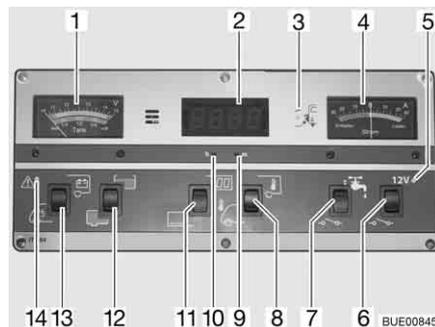

Fig. 107 Panel IT 994
With the V/tank gauge (Fig. 107,1), note the top scale. The gauge automatically lights up as soon as a switch is pressed.
- Press the lower part of the rocker switch (Fig. 107,13): The battery voltage of the starter battery is displayed.
- Press the upper part of the rocker switch (Fig. 107,13): The battery voltage of the living area battery is displayed.
The V/tank gauge is for the indication of the quantity of water or waste water. With the V/tank gauge (Fig. 107,1), use the bottom scale. The gauge automatically lights up as soon as a switch is pressed.
- Press the upper part of the rocker switch (Fig. 107,12): The volume of water is displayed.
- Press the lower part of the rocker switch (Fig. 107,12): The volume of waste water is displayed.
The red ALARM warning light (Fig. 107,14) flashes as soon as the voltage of the living area battery falls below 11 V (measured under operation) and there is a risk of a total discharge.
- Press the upper part of the rocker switch (Fig. 107,11): Digital clock display is switched on. Temperature display is ready to operate.
- Press the lower part of the rocker switch (Fig. 107,11): Digital clock display and temperature display are switched off.
- Press a thin device, such as a biro, into the opening for the hour display (Fig. 107,10) until the correct hours are displayed.
- Press a thin device, such as a biro, into the opening for the minute display (Fig. 107,9) until the correct minutes are displayed.
- Press the upper part of the rocker switch (Fig. 107,8): The internal temperature is displayed.
- Press the lower part of the rocker switch (Fig. 107,8): The external temperature is displayed.
The battery current actually flowing is permanently displayed on the current gauge (Fig. 107,4). The gauge automatically lights up as soon as a switch is pressed.
The 12 V main switch (Fig. 107,6) switches the panel and the 12 V power supply of the living area on and off.
*Switching on:* ■ Press the upper part of the rocker switch (Fig. 107,6): The 12 V living area power supply is switched on. The indicator lamp (Fig. 107,5) lights up green.
*Switching off:* ■ Press the lower part of the rocker switch (Fig. 107,6): The 12 V living area power supply is switched off. The indicator lamp (Fig. 107,5) goes out.
The 12 V indicator lamp (Fig. 107,5) illuminates whenever the 12 V main switch (Fig. 107,6) is switched on.
The yellow 230 V indicator lamp (Fig. 107,3) illuminates whenever line voltage is available at the transformer/rectifier input.
*Switching on:* ■ Press the upper part of the rocker switch (Fig. 107,7): The water supply is ON.
*Switching off:* ■ Press the lower part of the rocker switch (Fig. 107,7): The water supply is OFF.